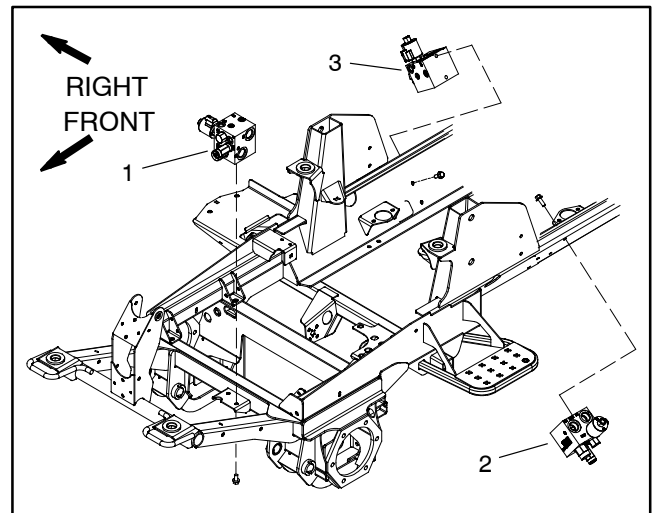

Figure 38
2. Locate PTO (deck) manifold to be tested (Fig. 38). Disconnect hydraulic hose at PTO manifold port (M1).